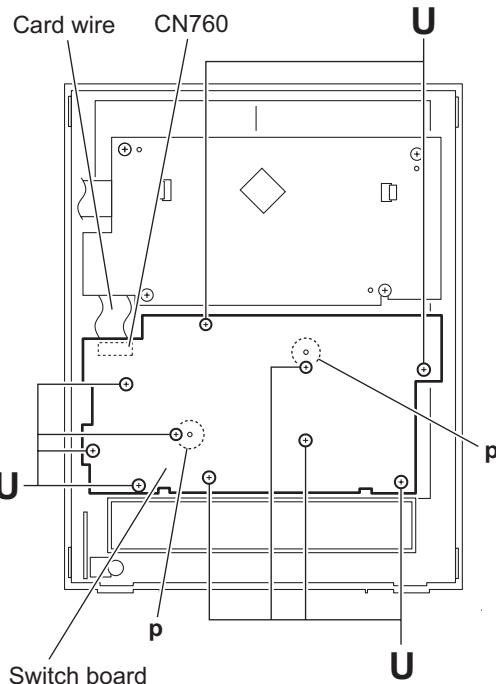

Fig.26
- (2) From the inside of the front panel assembly, remove the ten screws **U** attaching the switch board. (See Fig.26.)
- (3) Take out the switch board from the front panel assembly and disconnect the card wire from the connector **CN760** on the switch board. (See Fig.26.)
When attaching the switch board, align the projections **p** of the front panel assembly in the holes of the switch board. (See Fig.26.)